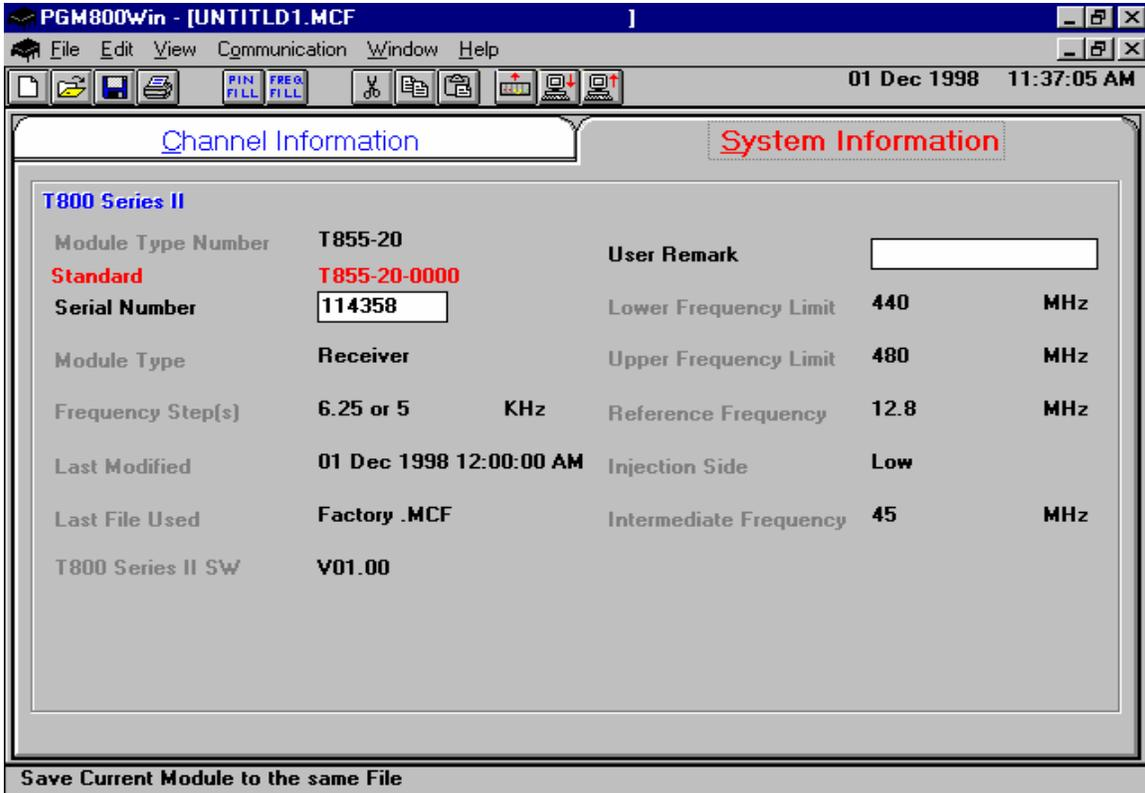
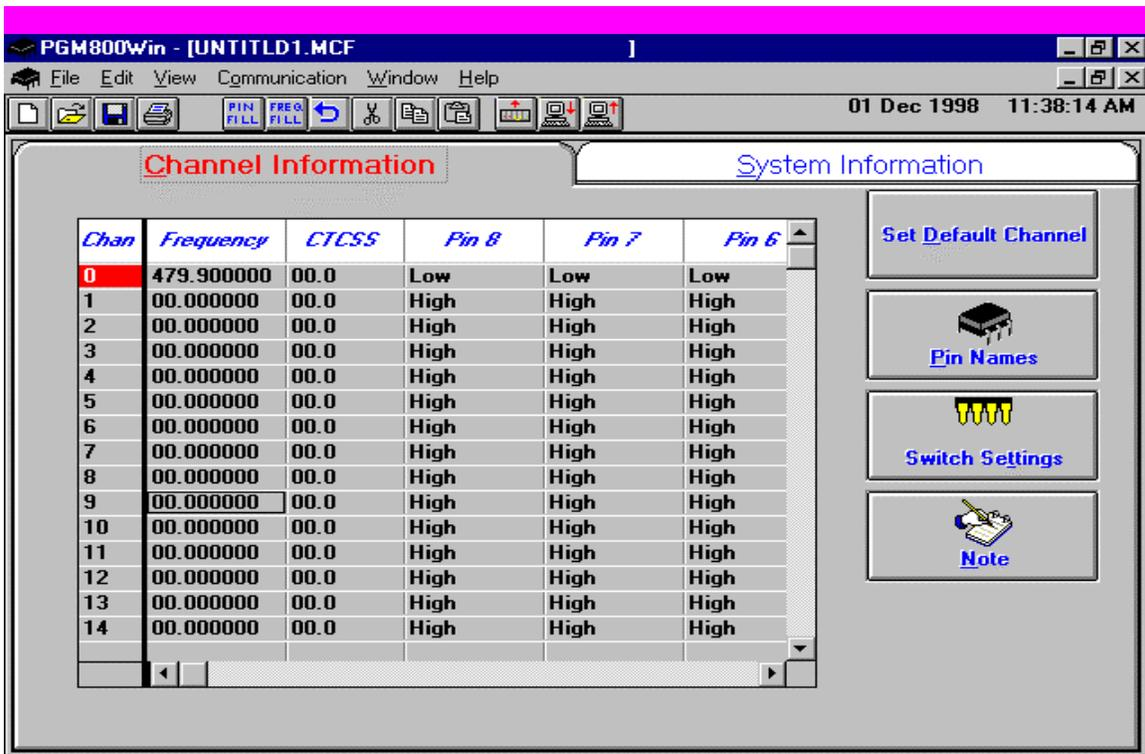
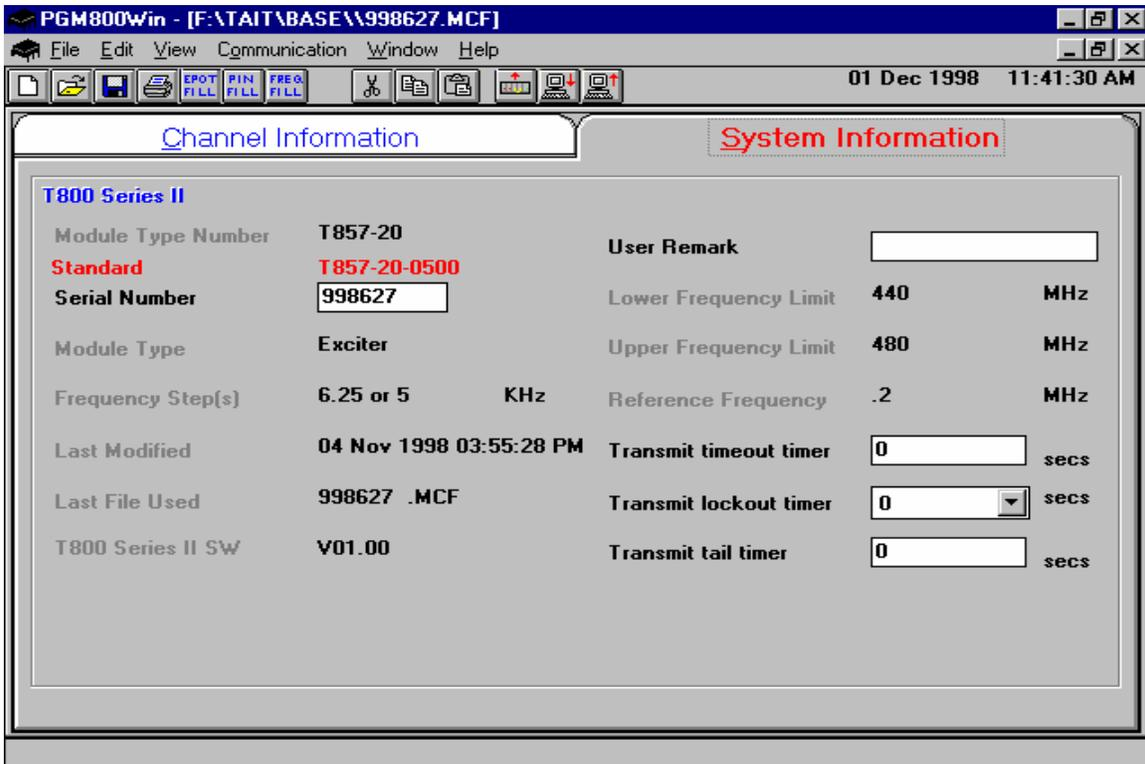
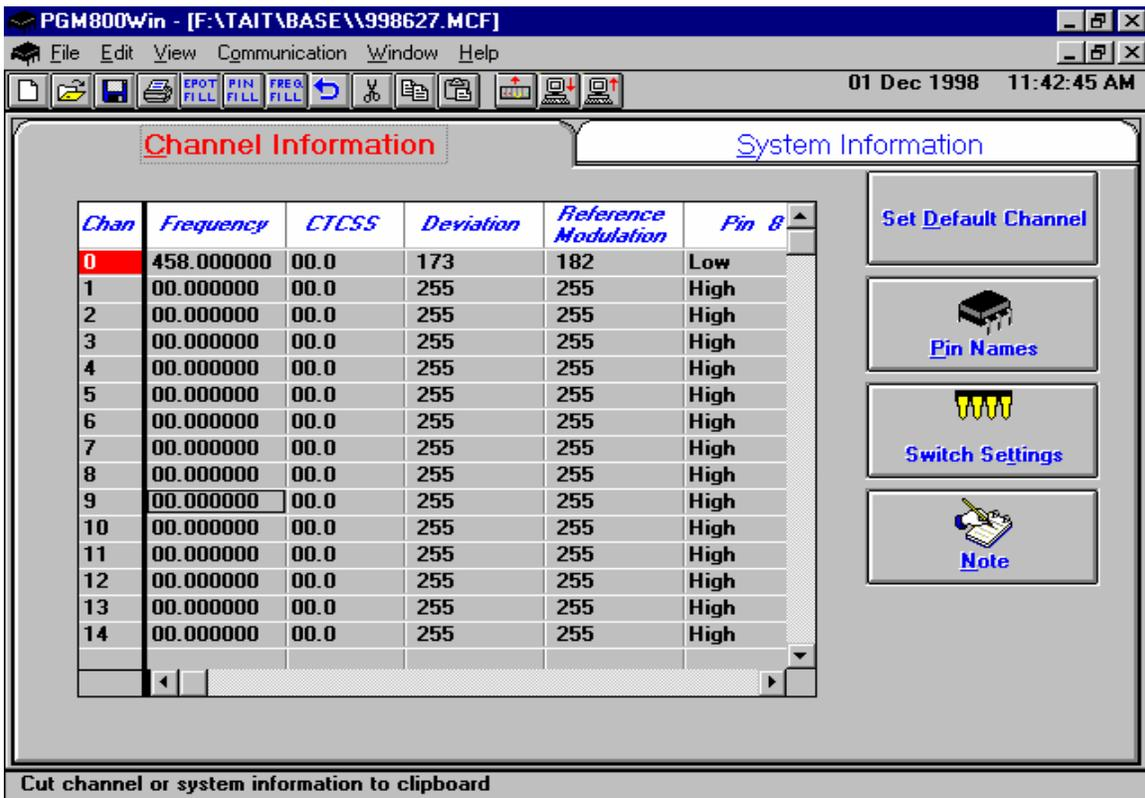

Figure 14 - Receiver System Information Sample
Figure 15 - Receiver Channel Information Sample
Figure 16 - Exciter System Information Sample
Figure 17 - Exciter Channel Information Sample
- Refer to Figure 14, Figure 15, Figure 16 and Figure 17 for screen program examples.